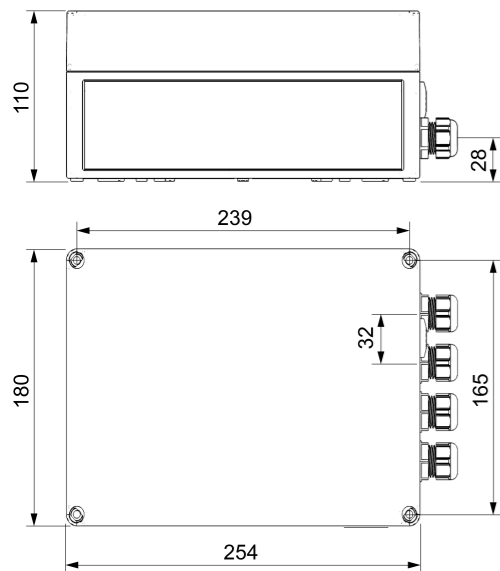
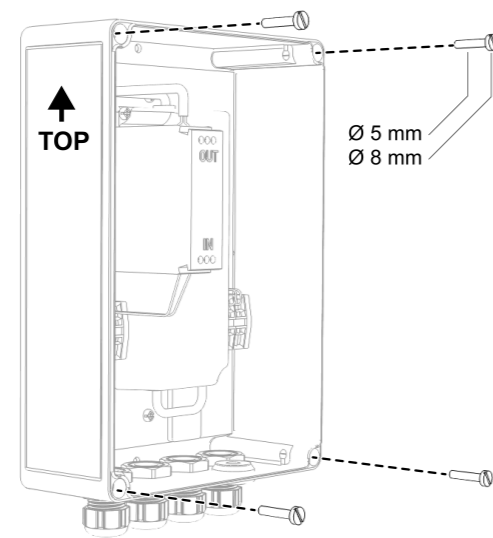

Figure 2: Dimensioned drawing
Figure 3: Installing housing
- Fasten the housing (2) to the installation substrate using suitable screws (not included in the scope of supply) (Figure 3). Observe the (TOP) and drill dimensions (Figure 2).